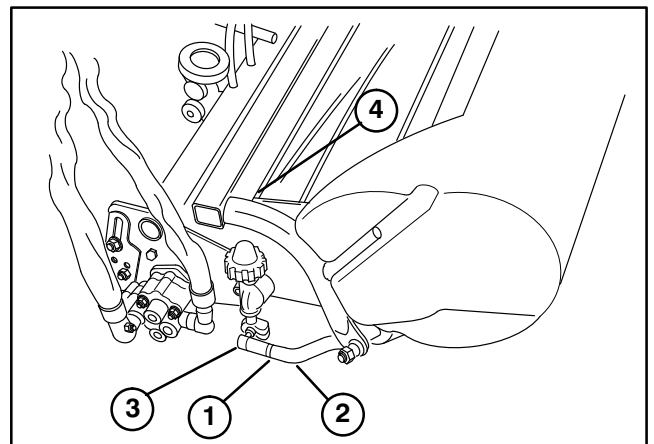

Figure 9
6. Mount the baskets on the pull frames, loosen the jam nuts on the pull arms and adjust the ball sockets until there is 1/4 in. to 1/2 in. clearance between the lip of the basket and the reel blades (Fig. 9).
7. Align the sockets in the ball joints so the open side of the socket is centered towards the ball stud. Tighten the jam nuts to secure the sockets in position (Fig. 9).